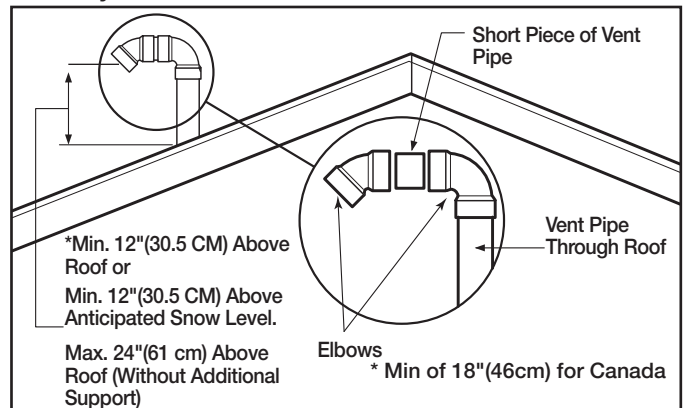

Figure 6 – Vertical Vent Terminal Location
**VERTICAL VENT TERMINAL LOCATION** – The location of vertical vent terminal depends on the following considerations (see Figure 6):